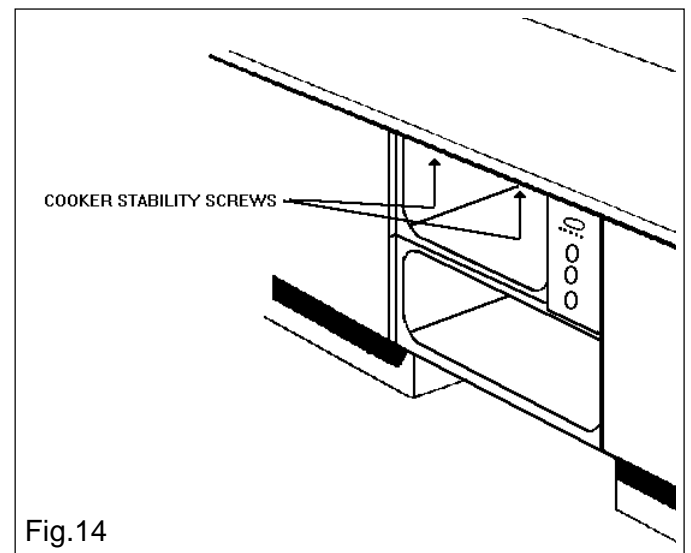

Fig.14
- When the cooker is fully housed, screw the stability screws (supplied with the cooker) into the underside of the worksurface in the positions indicated (see Fig. 14), taking care not to distort the trim. It is advisable to turn each screw alternately to avoid damaging the trim.